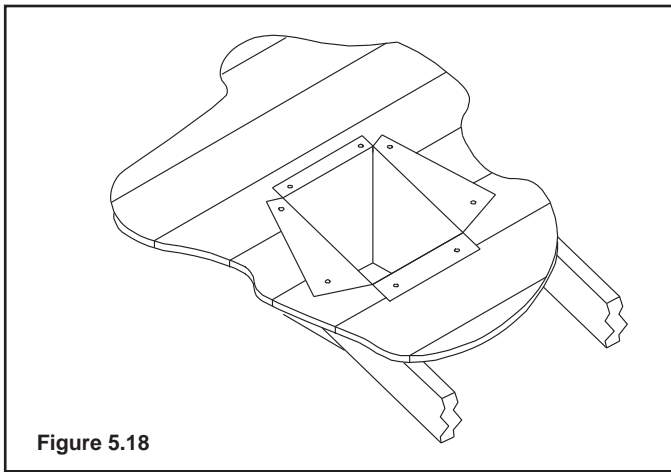

Figure 5.18
4. Using tin snips, cut the support box from the top corners down to the roofline, and fold the resulting flaps over the roof sheathing (Figure 5.18). Before nailing it to the roof, run a bead of non-hardening mastic around the top edges of the support box to make a seal between it and the roof.